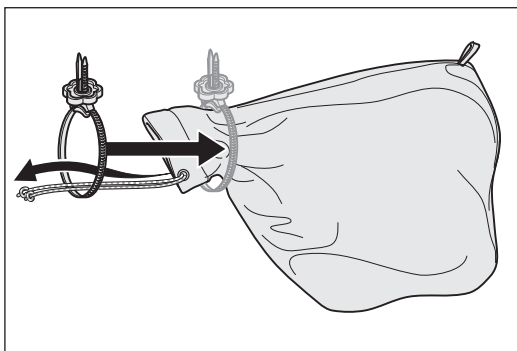

Fig. 4 Slide the MultiClip fastener over the opening of the dust bag.
- 2 Slide the MultiClip fastener over the opening of the dust bag (fig. 4).